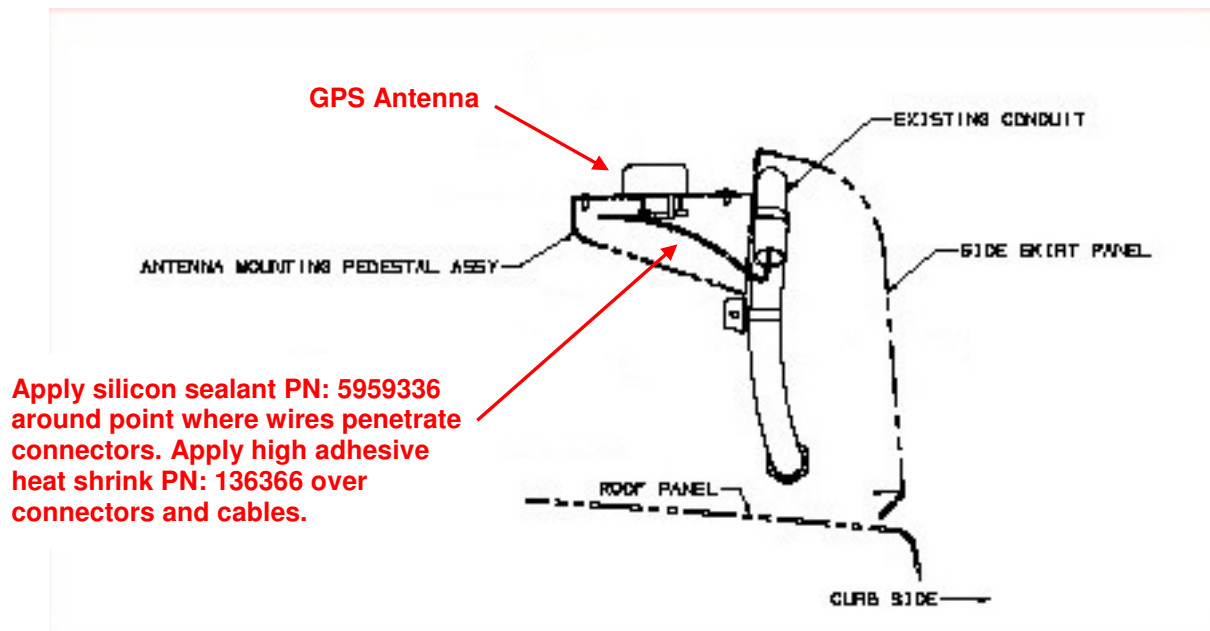

Figure 1: Location of GPS Connector.
2. Access the GPS connector located under antenna mounting panel. See Fig. 1.